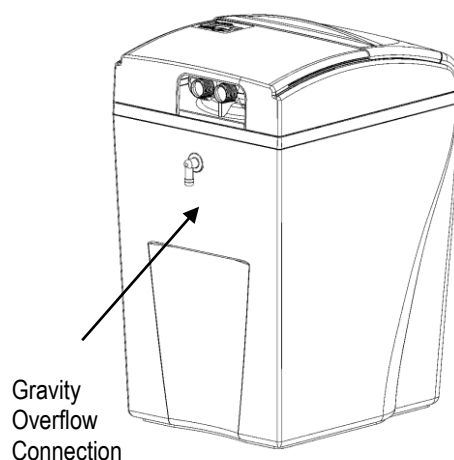

Figure 3: Gravity Overflow Connection
- C. Attach the water lines to the appliance in compliance with all applicable building, plumbing, and electrical codes. (See Figure 3.) Do NOT over tighten the connections on the plastic threads.
- A. Check that the overflow elbow is in the down position. (See Figure 3)